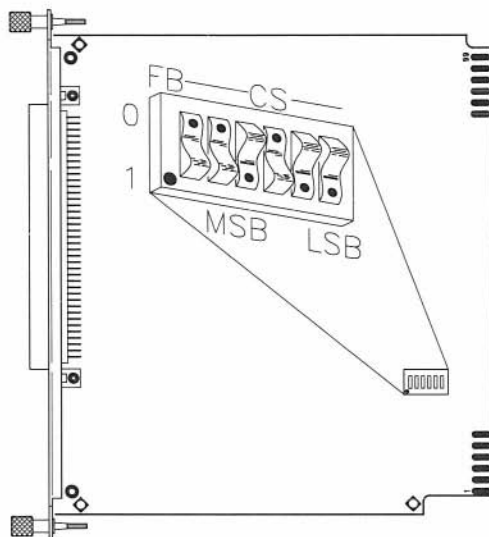

Figure 5-24. HP 98724A LGB Interface Switches
If this is the first (or only) LGB card you are installing and you want to use the Graphics Display Station as the system console, you can skip to step 3. Your LGB interface card has been preset to an internal addressing mode (as shown in Figures 5-24 and 5-25).
- a. Find the set of six switches labeled SW1 on the HP 98724A/25A interface card (see Figures 5-24 and 5-25). The switch labeled FB determines the Frame Buffer address, and the other five switches labeled CS (for Control Space) determine the interface's select code.